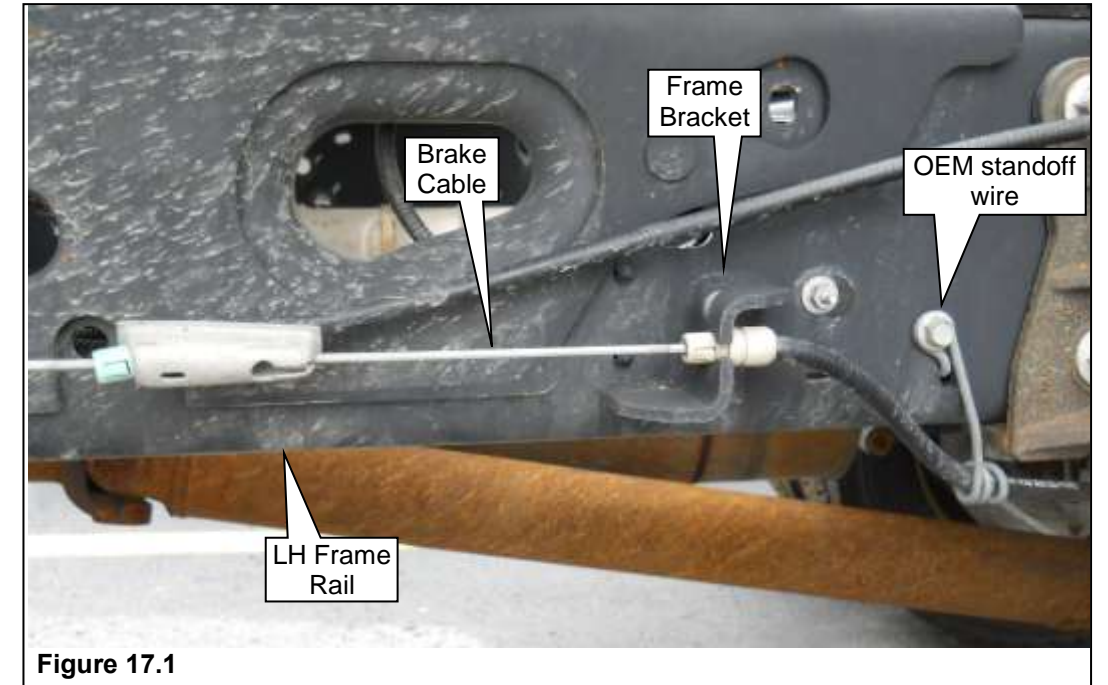

Figure 17.1
1. Release tension on the brake cable and remove the cable from frame bracket. Refer to the Ford Workshop Manual, Section 206-05, Parking Brake and Actuation. Disconnect the OEM park brake cable standoff wire. **Figure 17.1.**